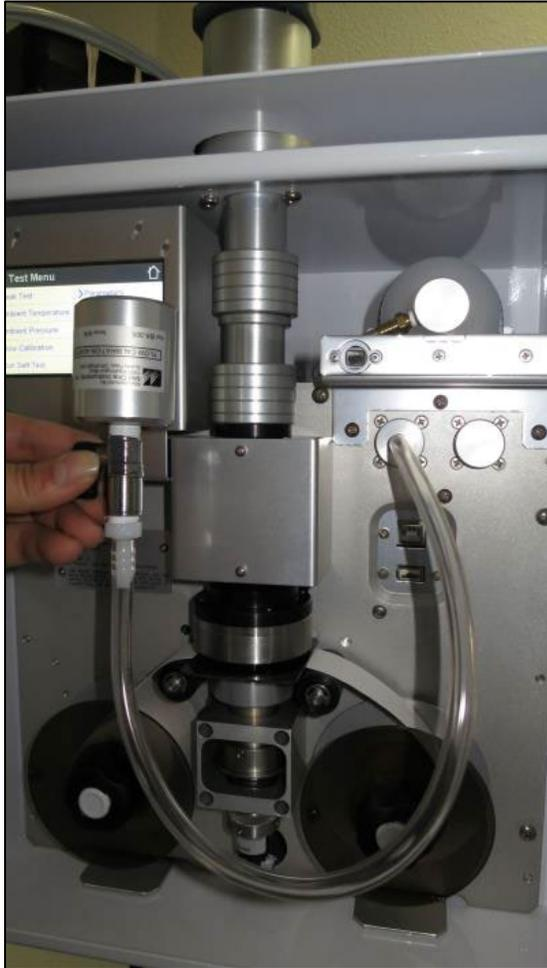

Figure AR-33. Met One E-BAM Plus Installation of Adapter Tubing
28. Install the adapter tubing to the sheath air pre-filter inlet and to the flow audit adapter (Figure AR-33).